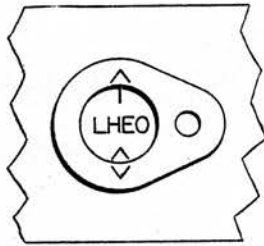

Fig. 8A Checking valve timing. Models 50, 60
**MODELS 50, 60**—With tappet clearance set at .020", turn engine over until left-hand exhaust valve just starts to open which is indicated when the tappet lever has moved just enough to take up the .020" clearance. At this point the "LHEO" (left-hand exhaust opens) mark on the flywheel, Fig. 8A, is aligned within 13/16" of the notch in the timing hole. If this is not the case, check the timing of the camshaft gear with the crankshaft gear as stated under **Camshaft & Bearings**.